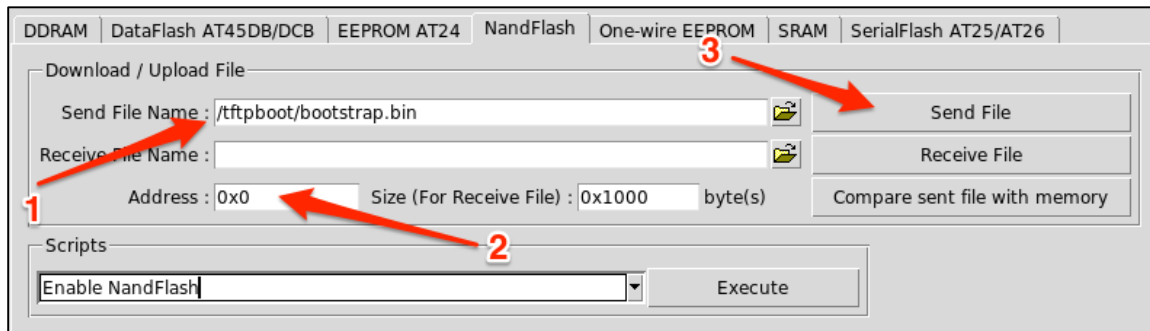

Figure 6: Flashing bootstrap, u-boot, and kernel
14. To flash bootstrap/u-boot/kernel, do the following three steps identified in Figure 6: